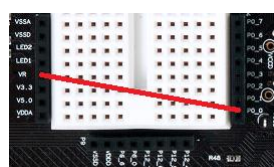

Figure 5: Connect pin P0_0 to VR
- Attach a jumper wire from P0_0 to the VR header, as shown in Figure 5, below.